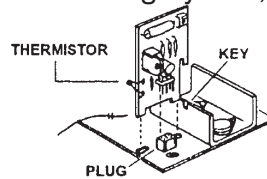

Figure 1
4. Locate the AFS. It is a circuit board with a small grey disc connected to the circuit board by two(2) silver wires (similar to Figure 1). Carefully bend the thermistor so that it is located in the center of the opening and approximately 1/8" from the inside edge of the power pack assembly.